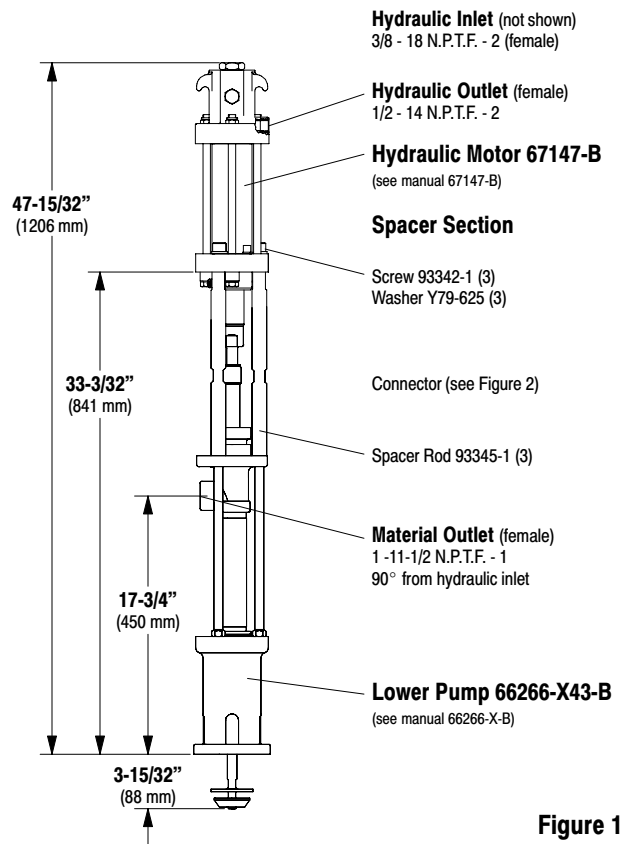

Figure 1
- Remove the three screws and washers from the three spacer rods (see figure 1).